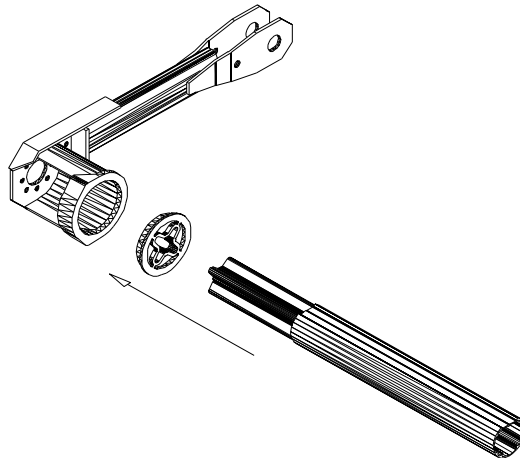

Figure 15
19. Rotate the knuckle arm up to the axle and slide the axle onto the motor shaft. Bolt the axle to the motor using the 3/8 bolt and shims supplied. Make sure that the polymer bushing is seated in the casting on the front arm. Refer to figure 15.